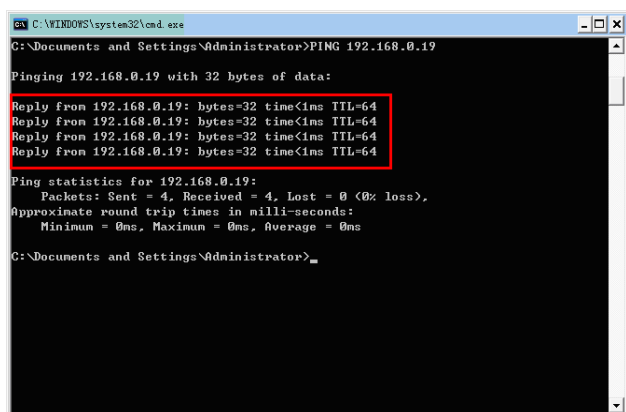

Figure 1
Step1: "Ping" the host IP first to confirm if the DVR is connected, the interface is as "Figure 1".